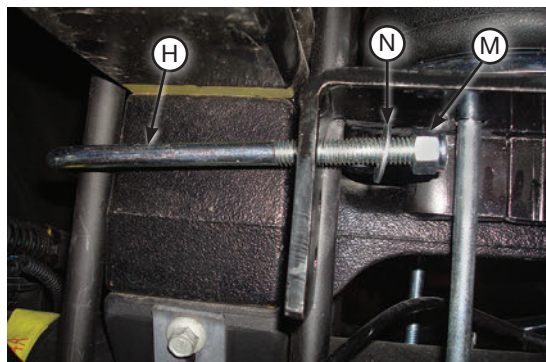

fig. D.16
2. Install the U-bolts (H) around the jounce bumper strike plate/spacer blocks and insert through the topmost holes in the lower bracket main plates (Fig. D.16). Cap with the 3/8" flat washers (N) and 3/8"-16 nylon lock nuts (M). Snug bolts evenly, just enough to hold the lower bracket main plate flush against the stock U-bolts.